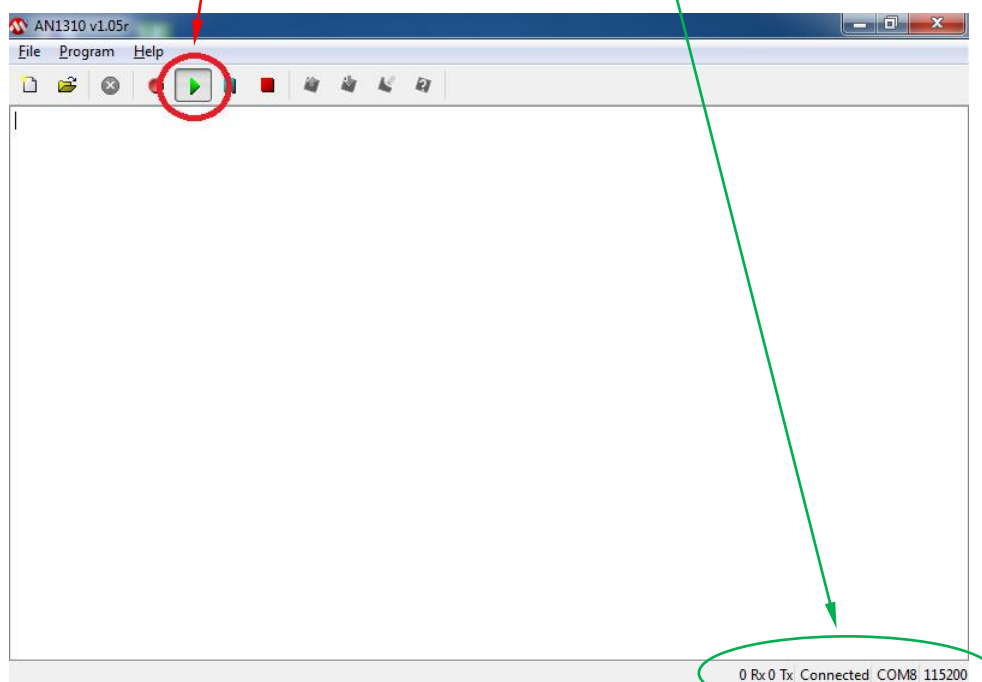

Figure 3.13
2. Press the green **Run Mode** button on the bootloader screen (*Figure 3.13*). At the bottom right hand side of the screen the **“Connected”** status will appear as well as the **COM Port number**.